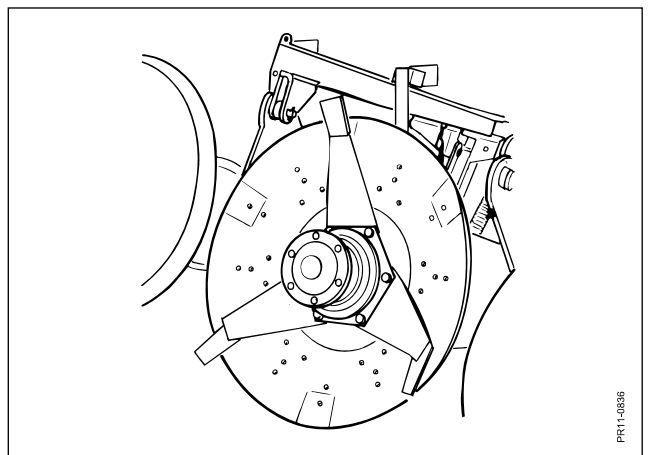

Fig. 5-8
- Fig. 5-8** The machine now lies steadily for dismounting of guide shoes and blade holders.